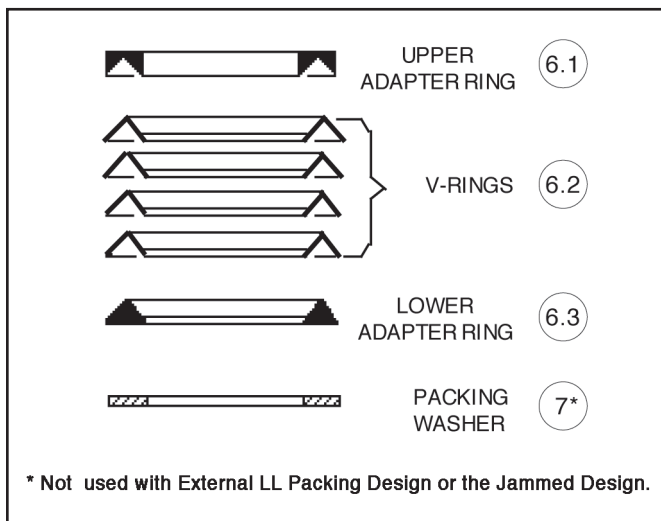
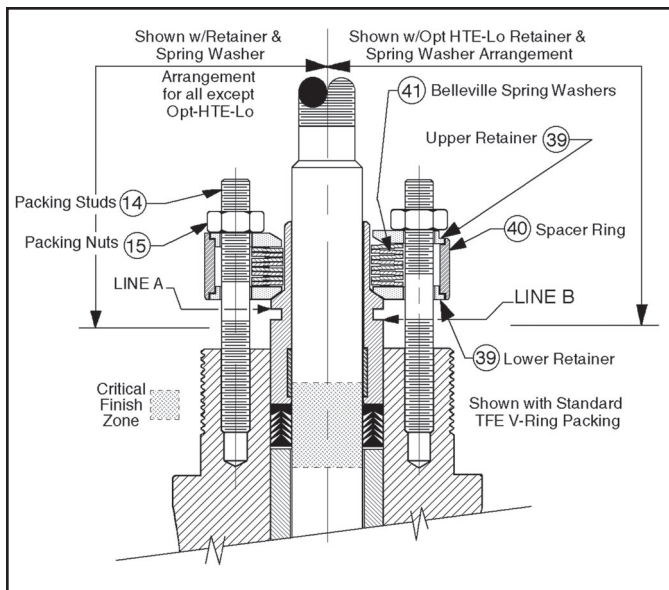
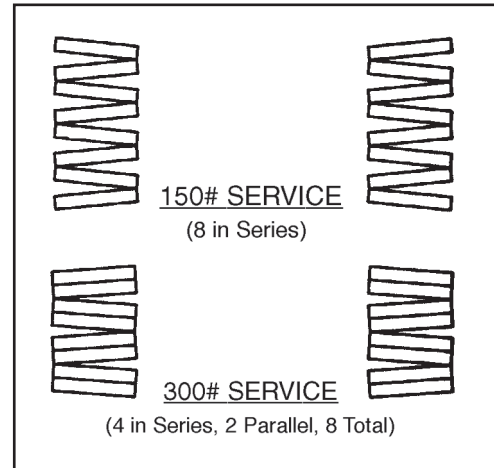

Figure 3: "STD" and "KRI" Packing Orientation
Figure 4: External Live Loaded Packing Orientation
Figure 5: Belleville Spring Washers Orientation
31. Place packing washer (7) over end of plug/stem (3) and carefully lower into stuffing box. See Figure 3 for proper packing orientation.
32. Carefully place lower adapter (6.3) of packing ring set (6) over plug/stem's (3) end, properly oriented. Using the packing follower (5), push the lower adapter into the bonnet's (2) stuffing box.
33. Carefully place a packing ring (6.2) properly oriented over the plug/stem's (3) end and push into the stuffing box similar to the adapter (6.3). Repeat for each of the four rings (6.2).
34. Place upper adapter (6.1) over the stem (3)
35. Place packing follower (5) with new wiper ring (22) and new follower bushing (26) tape over the end of the plug/stem (3).
36. Place packing flange (4) over end of plug/stem (3) and over packing studs (14).
1. Remove (AA) as described in Sub-Section V.B. Leave (BA) in vise with plug/stem (3) upwards.
3. Loosen both packing stud nuts (15) until clearance exists between the bottom of the nuts (15) and the upper retainers (39). See Figure 4.
4. Spacer rings (40) should "spin freely". If stacked mechanism (39,40,41) is not "loose" due to corrosion, debris, packed dirt, etc., tap the spacer rings lightly with a hammer while attempting to pry up the spacer ring /lower retainer with a flat tool. **DO NOT REMOVE PACKING NUTS (15).**
5. Continue to loosen packing stud nuts (15) to just short of disengagement from packing studs (14). **DO NOT REMOVE PACKING NUTS.**
23. Remove body (1) from vise. Solvent clean all loose parts with suitable solvent. Determine parts to be replaced due to wear and/or corrosion. Clean seat ring (11), cage (10), and seat retainer (23).
24. Place body (1) into vise with body/bonnet flange up. Install a new seat ring gasket (13) inside body
25. Note correct orientation of seat ring (11) and place inside the body (1).
26. For a composition/soft seat design, position a new soft seat inset (24) and the seat retainer (23) into position on top of seat ring (11).
27. Place a new bonnet gasket (12) on the body's (1) bonnet flange face.
28. With cage (10) oriented correctly on the stem assembly (3), set plug head down into the seat ring (11). Keep firm hold of stem with one hand; use other hand to push cage down into proper alignment.
29. Lift bonnet (2) over threaded end of plug/stem (3) and carefully lower bonnet down over stem, ensuring that the critical finish zone of the bonnet's stuffing box is not scratched by the stem's threads. Align body (1) to-bonnet (2) flanges to matchmarks as bonnet comes down over bonnet studs (16). Carefully release stem (3) only when bonnet is completely resting on the body.
30. Install bonnet nuts (17) onto bonnet studs (16) and finger -tighten.
31. Place packing spacer (9) over end of plug/stem (3) and carefully lower into stuffing box.
- 32A. For Opt-EXT and Opt-KRE Packing option – (Reference Figure 3 for proper packing orientation) –
- a. Carefully place lower adapter (6.3) of the new packing ring set (6) over plug/stem's (3) end, properly oriented. Using the packing follower (5), push the lower adapter into bonnet's (2) stuffing box.
- c. Carefully place upper adapter (6.1) similar to lower adapter (6.3). Leave packing follower (5) in position, properly oriented.
- d. Place lower retainers (39) over each packing stud (14). See Fig. 4 for proper orientation.
- e. Orient spring washers (41) stacks per Figure 5. Lower spring washer stacks over studs and down onto the lower retainers (39).
- f. Place spacer rings (40) over studs and onto ledge of lower retainers (39).
- g. Place upper retainers (39) over the packing studs (14), and onto the ledge of the spacer rings (40). Ensure the upper retainers (39) are properly positioned around its circumference.
- h. Install packing stud nuts (15), finger-tight, on top of the upper retainers (39). (See Fig. 4.)
- i. Ensure that nuts (15) are drawn down evenly such that the upper retainers (39) are level. Wrench tighten packing nuts in 1/2 revolution increments. Continue to tighten nuts until the spacer rings (40) can no longer be manually rotated by use of fingers; add 1/2 revolution of additional draw-down to each nut to properly load the packing (6).
- a. Carefully place the lower braided ring (6.4) over the plug/stem's (3) end. Using the packing follower (5) push the lower braided ring (6.4) into the bonnet's (2) stuffing box.
- d. Carefully place the upper adapter (6.1) similar to the lower adapter (6.3). Leave packing follower (5) in position, properly oriented.